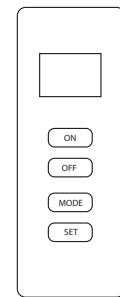

Fig. 28 - Remote
7. Keep control knob depressed for (30) seconds after pilot lights. Release control knob.
- If pilot goes out repeat steps 3 through 7. Wait (1) minute before attempting to light pilot again. If after several tries the pilot still goes out, turn the gas control knob clockwise  to the "OFF" position and call a qualified service technician.
9. To use the included thermostatic remote control, set receiver switch to the "REMOTE" position (See Fig. 28). Press the ON button to turn on the remote to ignite the main burner. Refer to the remote control instruction manual on the next page for "MODE" and "SET" functions.